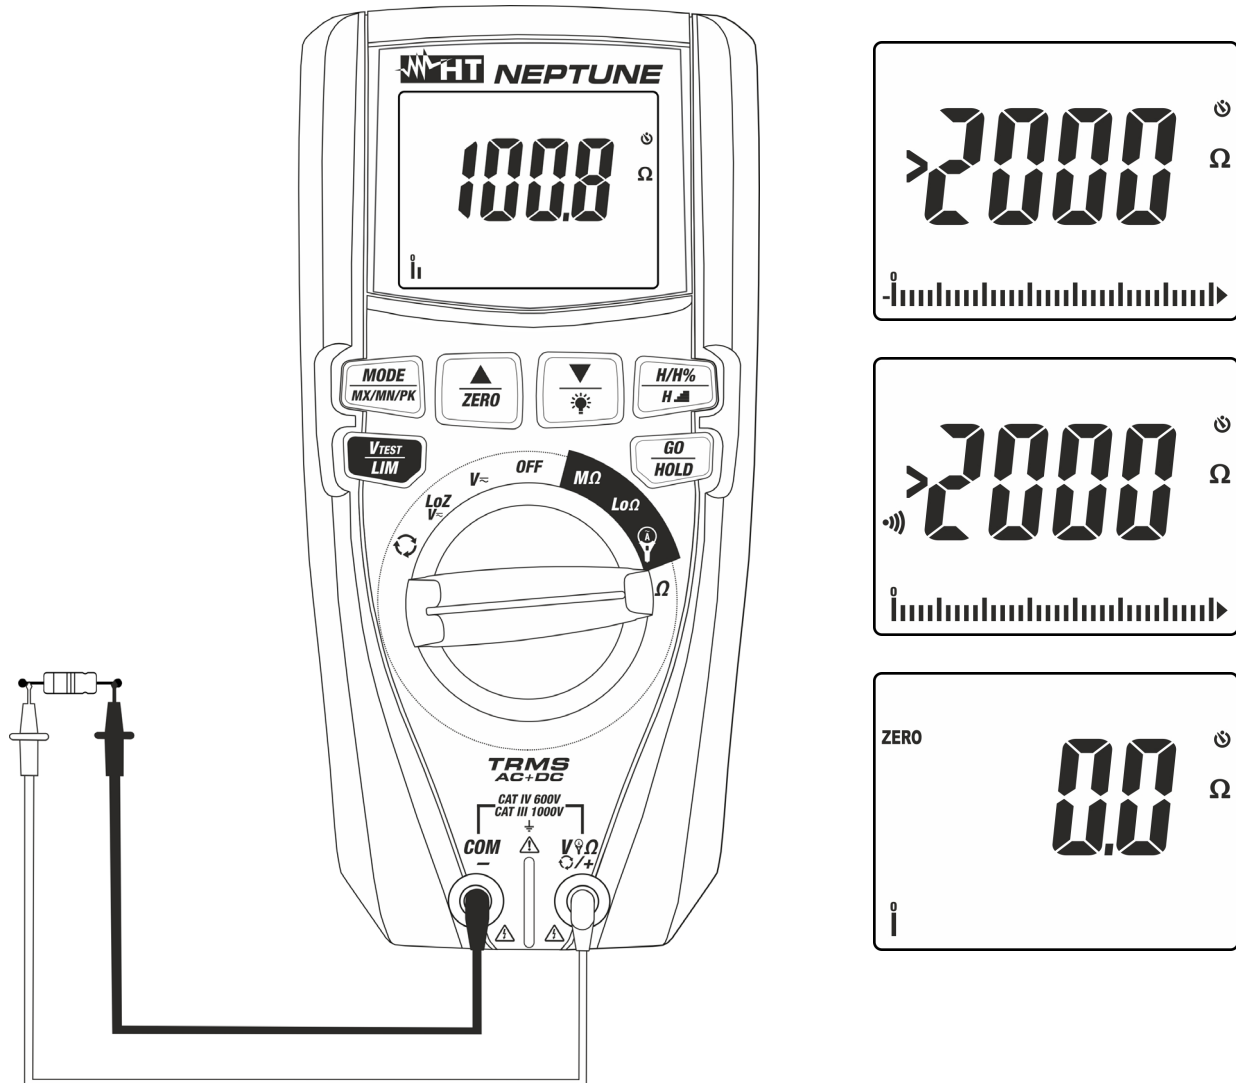

Fig. 9: Use of the instrument for resistance measurement and continuity test
4. Position the test leads in the desired spots of the circuit to be measured (see Fig. 9). The display shows the value of resistance.
5. If the display shows the message “>2000 Ω ” (see Fig. 9) the maximum measurable value has been reached.